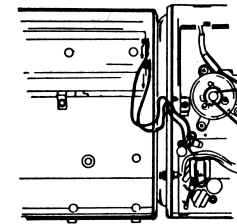

Fig. 3
2. Pull off DC supply wires from battery terminals on the battery compartment. (Fig. 3)